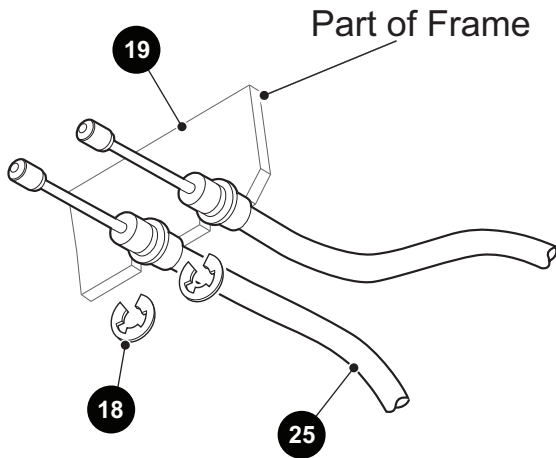

Fig. 25 Cable Connection (Pedal End)
- Remove the retaining rings (18) connecting the brake cables to the brackets (19) at both ends of the cable (25) (Ref Fig. 25).
- Slide the equalizer link (30) of the new assembly over the compensator rod (26).
- Loosely install the spherical nut (23) and new locking jam nut (24).
- Insert the cables (20) into the brackets (19).
- Install new retaining rings (18) (Ref Fig. 25).